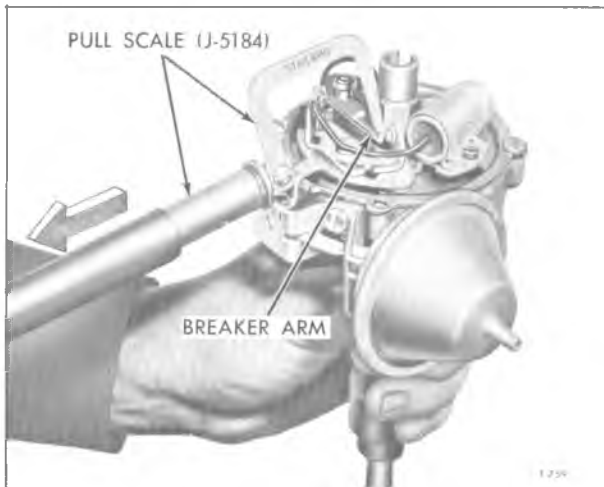

Figure 7—Checking Breaker Arm Spring Tension
4. Check and adjust points for proper alignment and breaker arm spring for proper tension (fig. 7). Use an alignment tool to bend stationary contact support if points need alignment.
NOTE: The contact point pressure must fall within specified limits. Weak tension will cause chatter resulting in arcing and burning of the points and an ignition miss at high speed, while excessive tension will cause undue wear of the contact points, cam and rubbing block. Breaker arm spring tension should be 19-23 ounces. The contact point pressure should be checked with a spring gauge. The scale should be hooked to the breaker lever and the pull exerted at 90 degrees to the breaker lever as shown in figure 7. The reading should be taken just as the points separate. The pressure can be adjusted by bending the breaker lever spring. If pressure is excessive, it can be decreased by pinching the spring carefully. To increase pressure, the lever must be removed from the distributor so the spring can be bent away from the lever. Avoid excessive spring distortion.